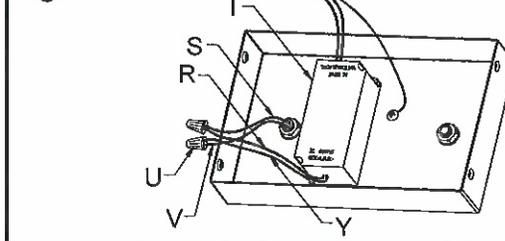

Fig. 3
CONNECTING THE WIRES (Fig. 3)
12. Connect electrical wires as shown in Fig 3, making sure that all wire connectors are secured. If your junction box has a ground wire (green or bare copper), connect the fixture's ground wire to it. Otherwise, connect the fixture's ground wire directly to mounting plate (A) using the green screw provided.